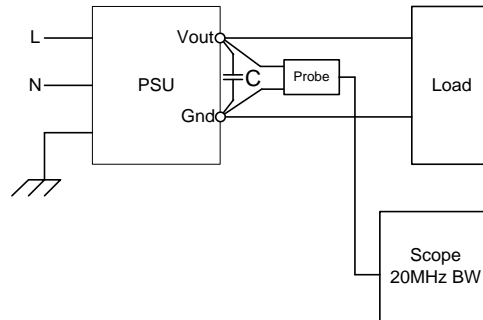

Figure 6. Output Ripple Test Setup
- Outputs bypassed at the point of measurement with a parallel combination of 10  $\mu\text{F}$  tantalum capacitor in parallel with 0.1  $\mu\text{F}$  ceramic capacitors, referring the setup in *Figure 6*.